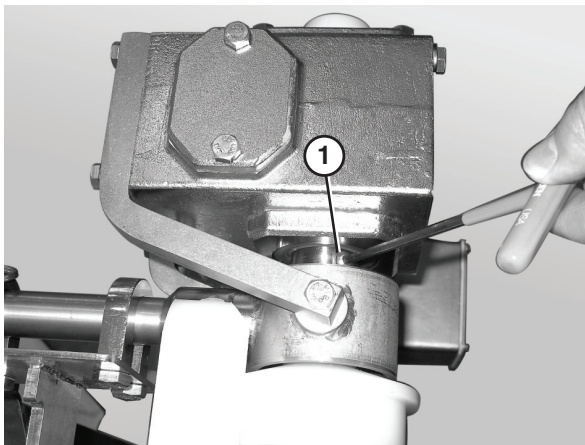

Figure 60
1. Loosen the button head screws (**Figure 60, item 1**) that connect the gearmotor to the drive spindle.